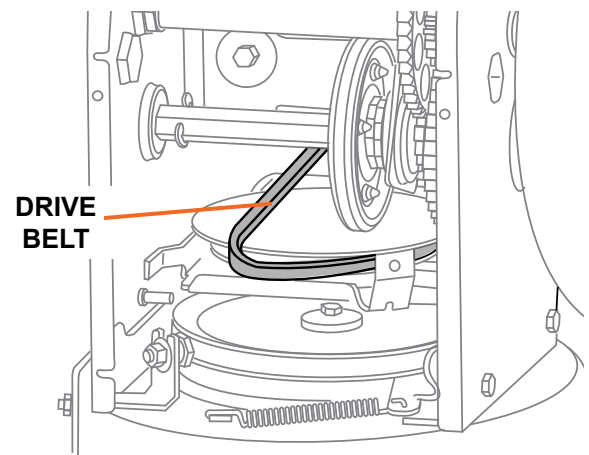

Figure 24
5. Remove the belt from the drive pulley, slip the belt between the support bracket and the drive pulley (see Figure 24).